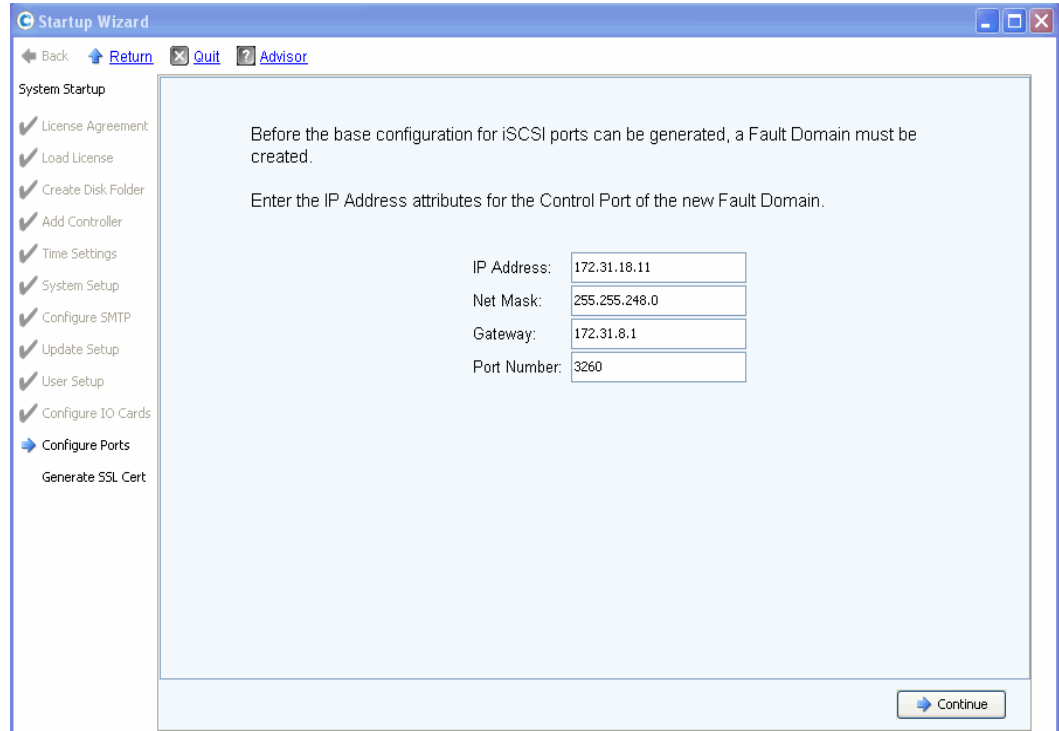

Figure 29. Create iSCSI Fault Domain
- iSCSI ports in Virtual Port Mode: If you chose Virtual Port Mode for an iSCSI port, there is an extra step. You will be asked to provide the IP Address information required to create the default iSCSI fault domain as shown on Figure 29 on page 34.